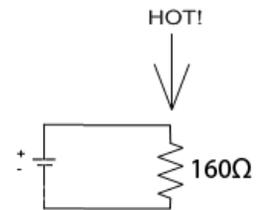

Figure 3.10: Voltage Across the Resistor
1. Use the protoboard to build the circuit shown in Figure 3.10, *Plug the batteries in last*. Once the circuit is built, plug in the batteries and quickly measure and record the voltage across the resistor. Then carefully touch the resistor and see how hot it is. It will be fairly warm. Unplug the batteries.